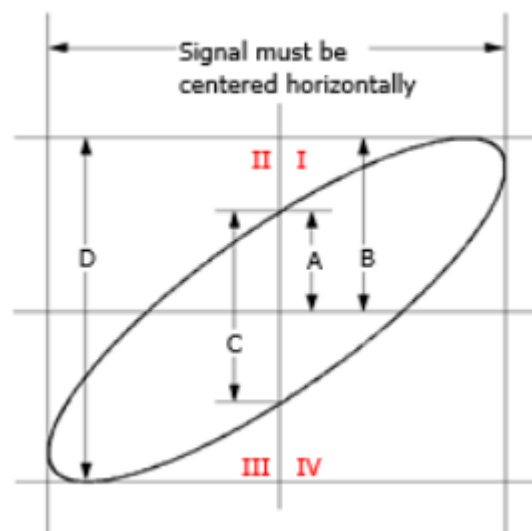

Figure 7.1 Measurement Schematic Diagram of Phase Deviation
4. Observing the measurement results in the above figure and based on the phase difference measurement principle diagram (Figure 7.1), it can be concluded that $A/B (C/D)=1$, that is, the difference angle between the input signals of the two channels is $\theta=\pm \arcsin 1=90^\circ$